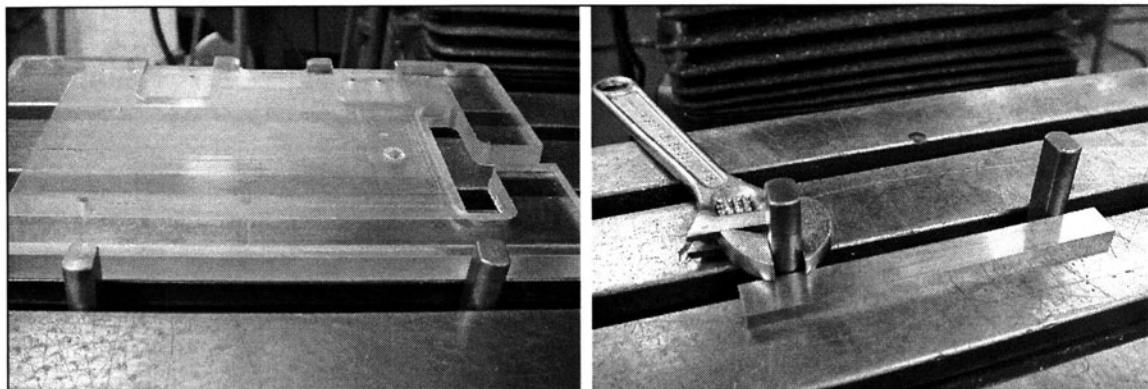

FIGURE 3-15 Modified dowel pins are mounted in the table slots to create a stop parallel to the "X" axis.
20. *Use modified dowel pins to create a "stop" parallel to the X-axis on a milling machine table. (See Fig. 3-15)*